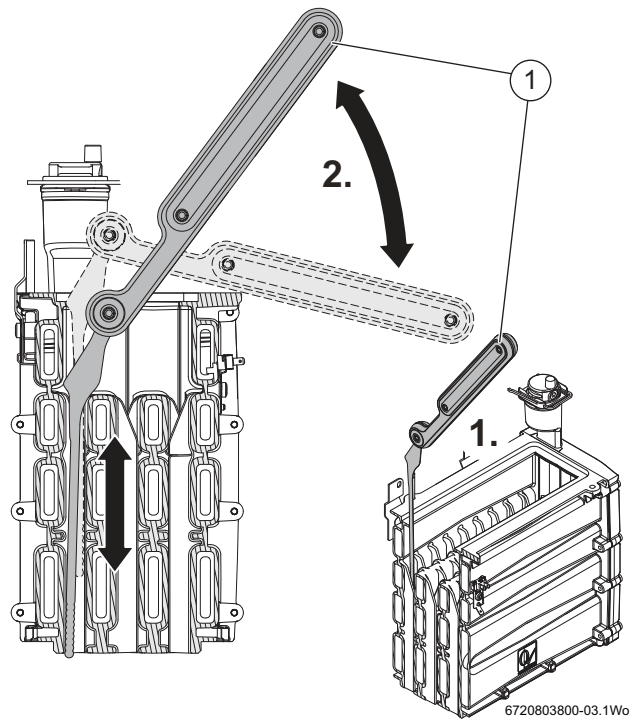

Fig. 75 Heat exchanger cleaning tool
1. Orient the cleaning tool (2) as shown in figure 75 and insert the tool into the rear or middle channels for cleaning.